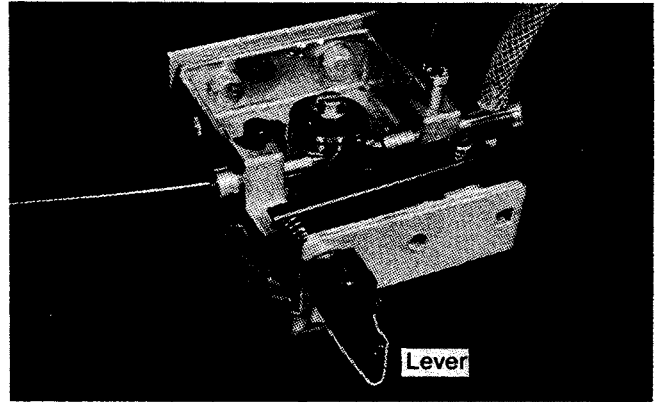

Figure 9
3. Flip the wire tension lever out. See Figure 9